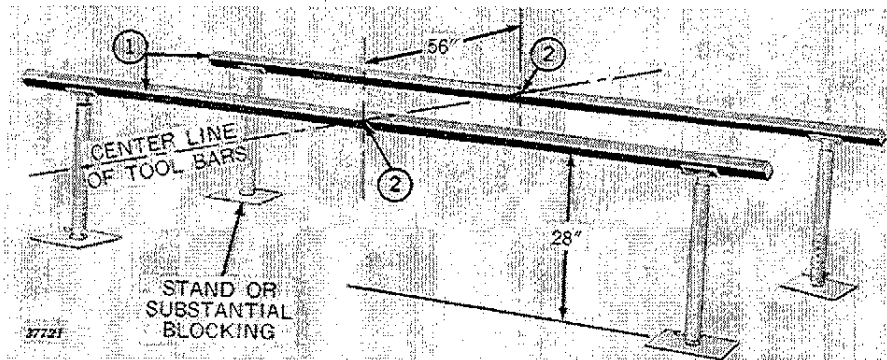

Figure 11
1. (Figure 11) Set the tool bars (which are identical) on stands or block up to approximately 28 inches high. The bars should be 56 inches apart center-to-center as shown.
2. (Figure 11) Measure and mark the center of both tool bars.